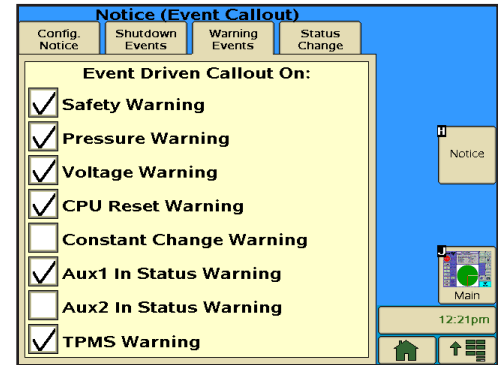

Figure 85-1 Warning Events Screen
1. Push **Options, Notice, Warning Events** to display the Warning Events screen. Refer to Figure 85-1.